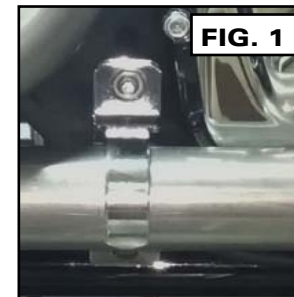

FIG. 1
2. Remove the stock exhaust system as described in your service manual. Retain the flange nuts and the head pipe mounting clamp with nut for the new system installation. (**Figure 1**),
5. Install the stock head pipe mounting clamp and nut. (**See Figure 1**) **DO NOT TIGHTEN.**